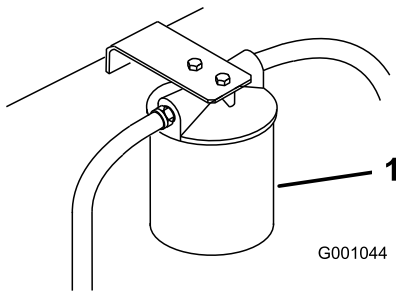

Figure 63
3. Place drain pan under filter, remove the old filter and wipe the filter adapter gasket surface clean (Figure 63).